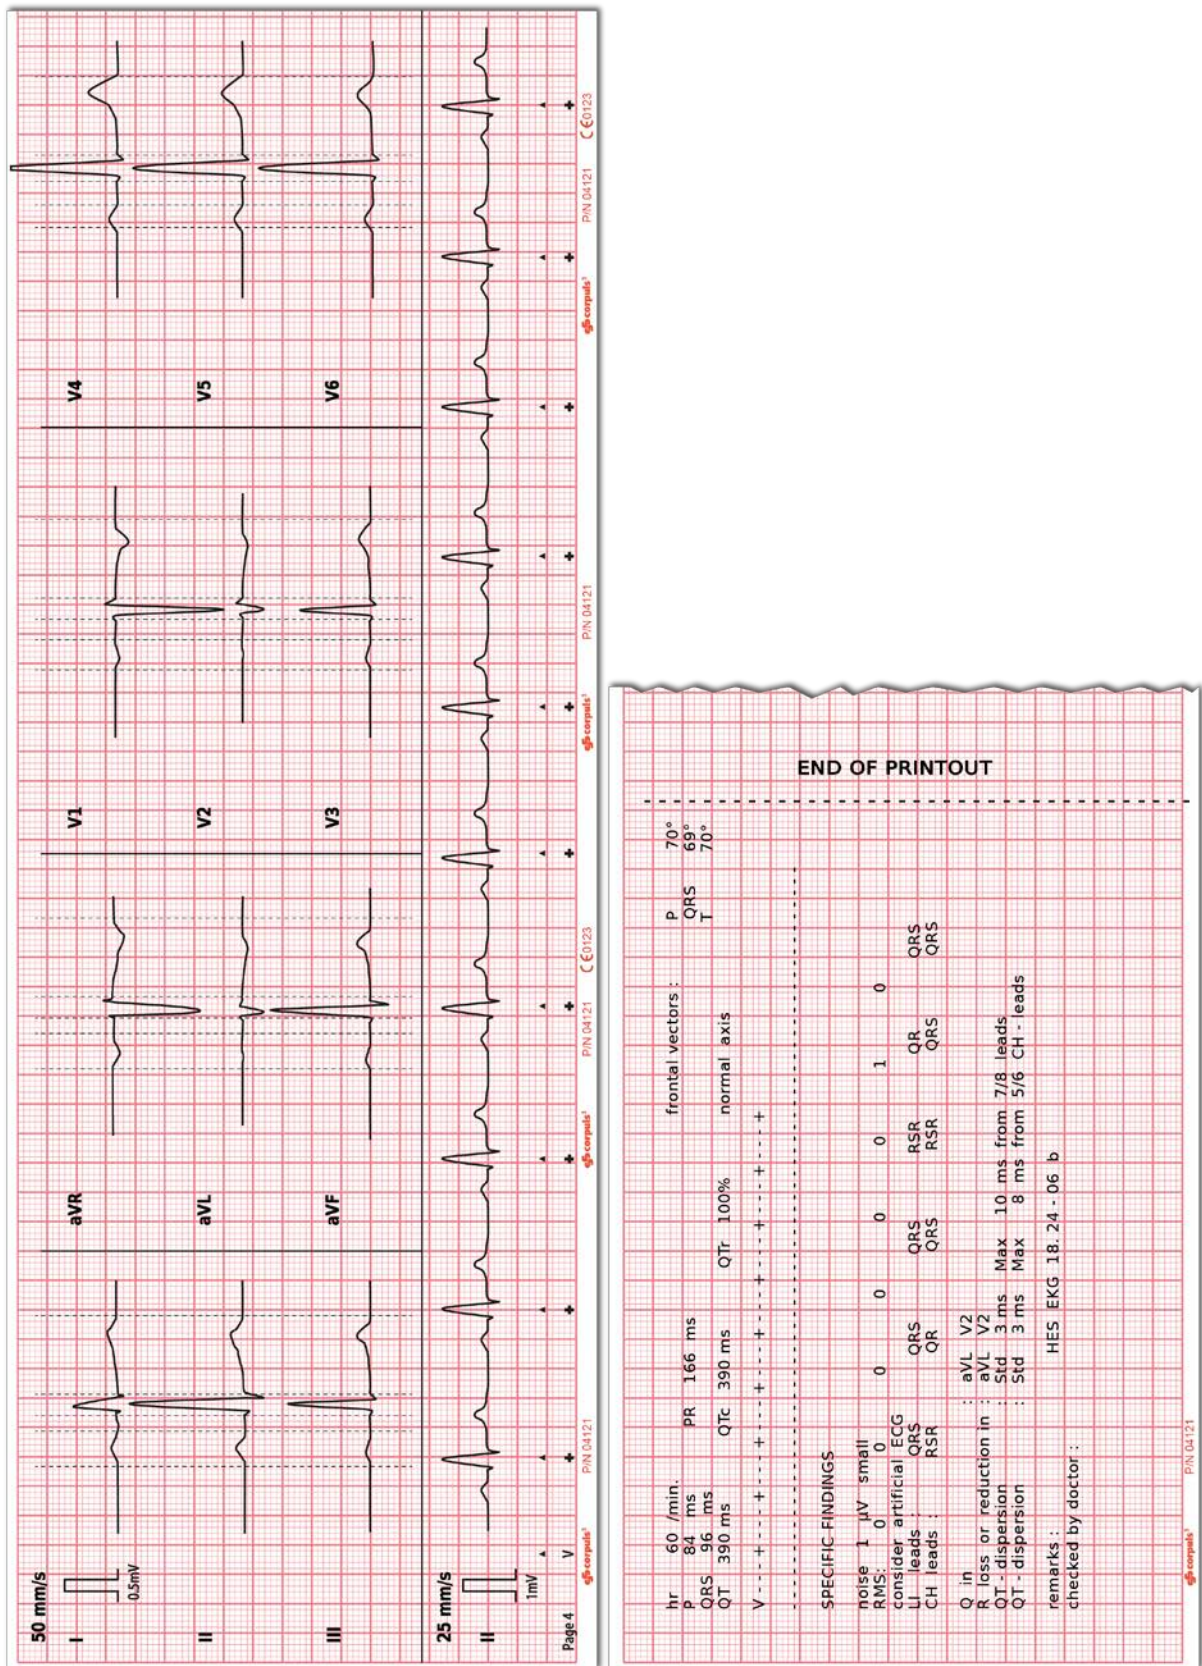

Fig. 6-13 D-EKG printout of the representative cycle with HES® Light (illustration may differ)
For the plausibility check of the conclusions about the rhythm and as an aid for the quality check, the ECG measurement/interpretation program HES® issues a rhythm- and typing diagram that represents the cycle sequence of the ECG complexes in an abbreviated form (see page 123, Fig. 6-13, item 1).